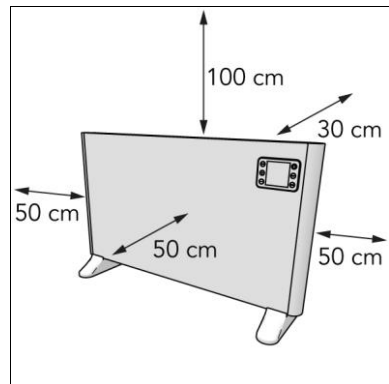

Figure 8
5. Place the device with a minimum clearance distance (Figure 8) of: